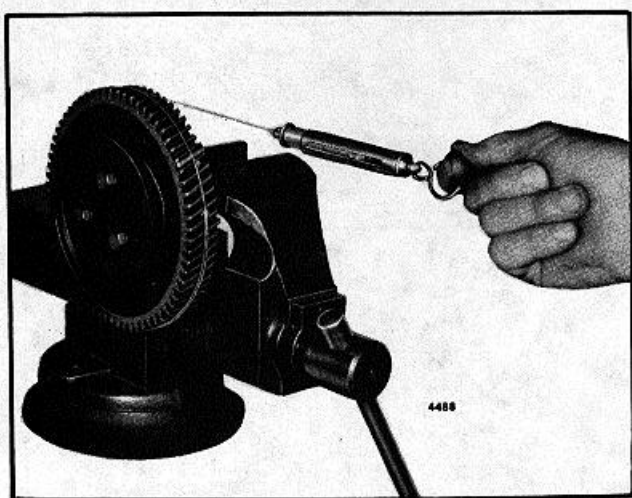

Fig. 8. Checking Pre-Load of Idler Gear Bearing
4. Tie one end of a piece of lintless 1/8 " cord around a 1/8 " round piece of wood (or soft metal stock). Place the wood between the teeth of gear, then wrap the cord around the periphery of the gear several times. Attach the other end of the cord to spring scale, J 8129 (Fig. 8). Maintain a straight, steady pull on the cord and scale, 90 ° to the axis of the hub, and note
3. Clamp the idler gear assembly and fixture in vise (Fig. 8).